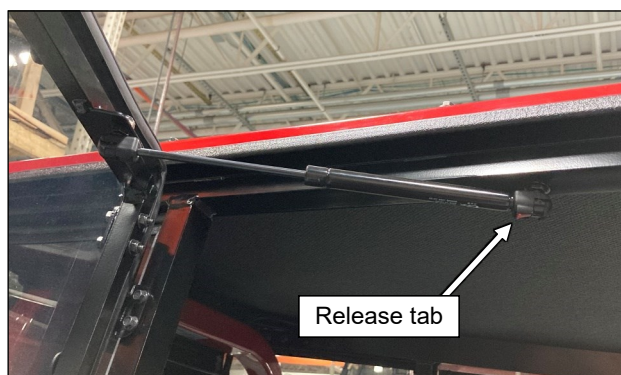

Fig. 11.5 (Door gas shocks, right shown)
- 11.5 See fig. 11.5. Re-install doors and install gas shocks. The end with the red tab should be attached to the side frame of the vehicle.